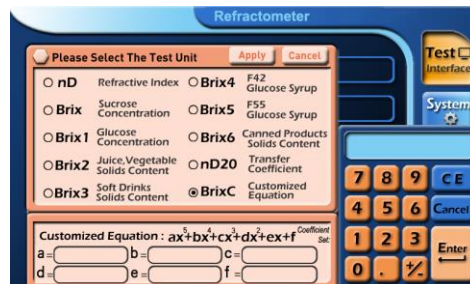

Figure 18
(2) If BrixC and nD20 is selected, user can enter customized coefficient. See Figure 18 and Figure 19.